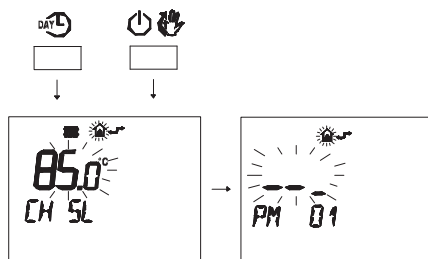

Fig. 7.32
- Press buttons **DAY** and **POWER** at the same time to enter transparent programming (Fig. 7.32).